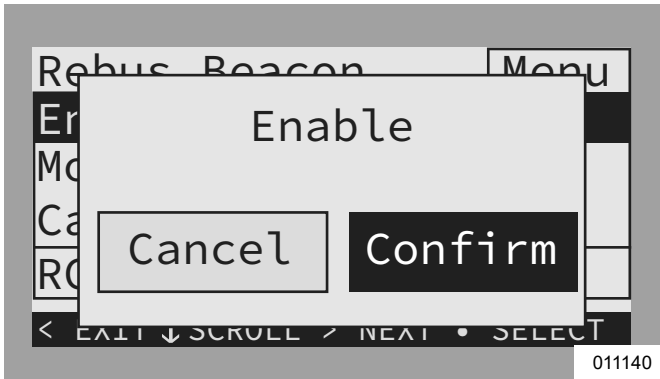

Figure 6-23. Enabling TOU Scheduler (2 of 2)
3. See Figure 6-23. Arrow right to Confirm and press the center button.